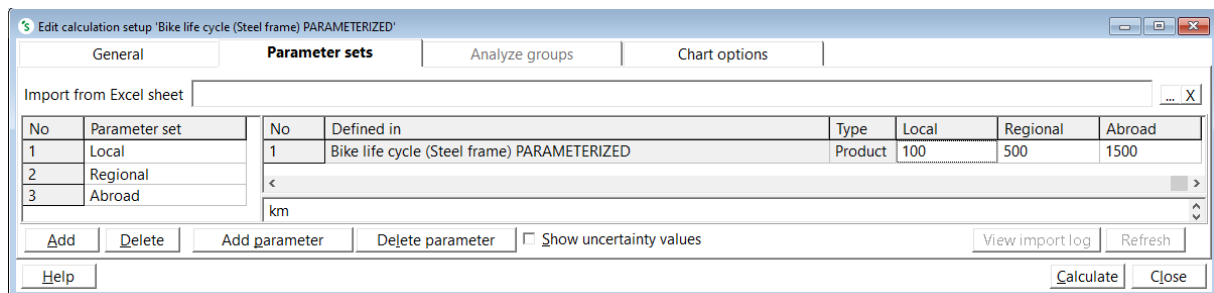

Figure 5.14 Calculation setup, with parameter sets
- 14) Now you have to add the parameter sets for the remaining scenarios and specify the distances. Add the “Regional” scenario with 500 km, and the “Abroad” scenario with 1500 km. Once you have created the parameter sets, the calculation setup looks like Figure 5.14.